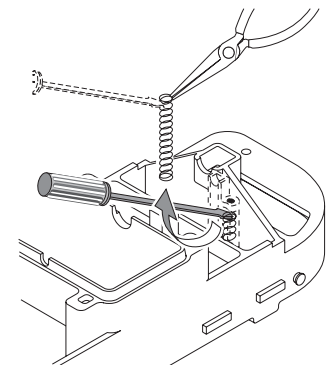

Figure 25
7. With a small screwdriver (such as a jeweler's screwdriver), a pencil, or a pen point, depress and remove the coil spring from the lift brush mounting post (**Figure 25**). Replace the brush and the spring if necessary.